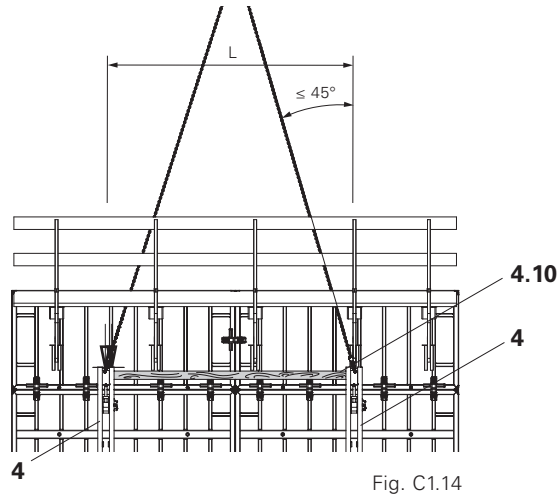

Fig. C1.14
In order to prevent the strongbacks being pulled out of line during the lifting process due to the redirection of forces, clamp a suitable piece of timber (10.4) as a compression brace between the top ends of the strongbacks (4). (Fig. C1.14)